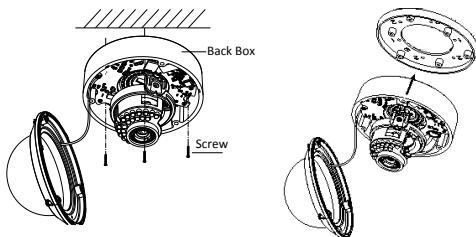

Figure 2-3 Secure the Camera
7. Secure the camera with the supplied screws as shown in Figure 2-3.